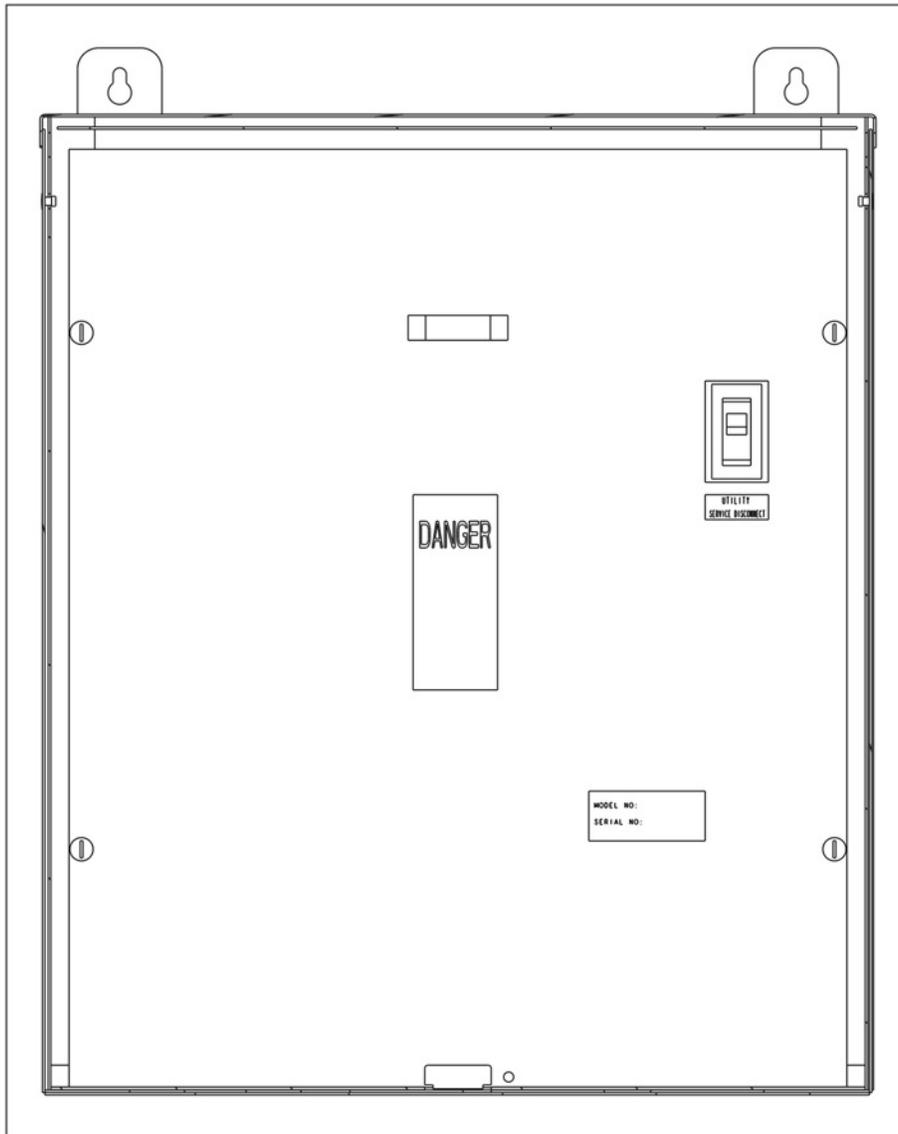
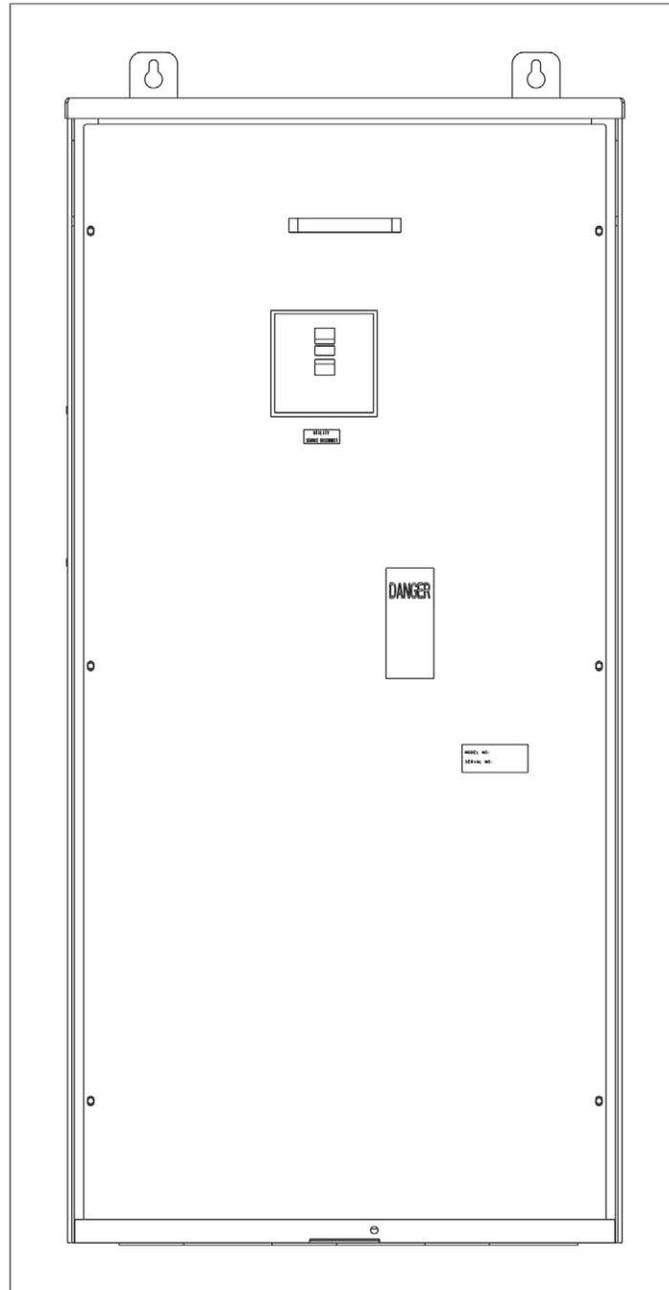

FIGURE 15. RA112S3 AND RA212S3 SERVICE ENTRANCE MODELS
FIGURE 16. RA412S3 SERVICE ENTRANCE MODEL
- *Service entrance models:* A model and serial number label is located on the inner panel. To view the label, remove the outer panel (see Figure 15) and Figure 16.